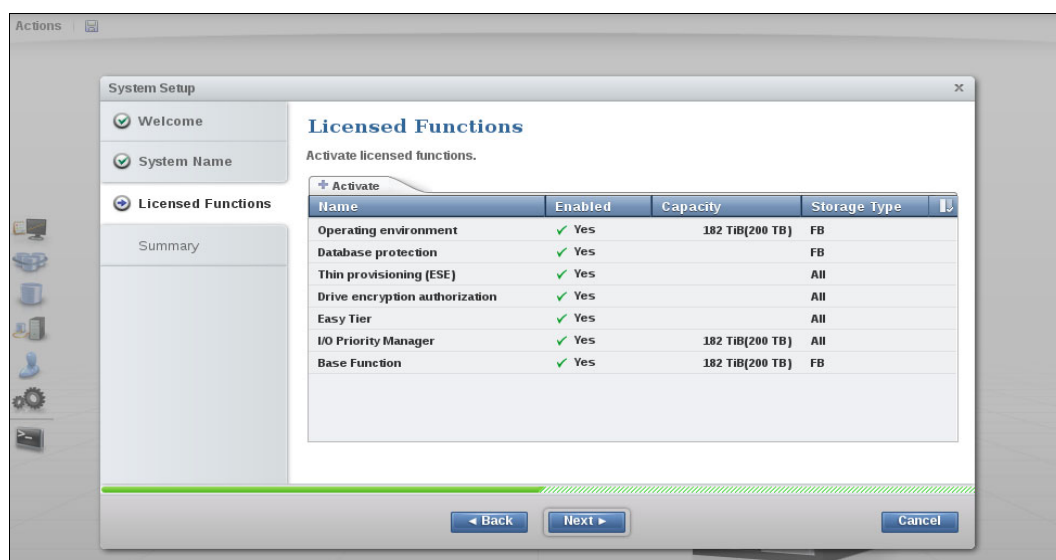

Figure 11-6 System Setup: Licensed Functions Enabled
4. When the license keys are entered click **Activate** to enable the functions as illustrated in Figure 11-6.